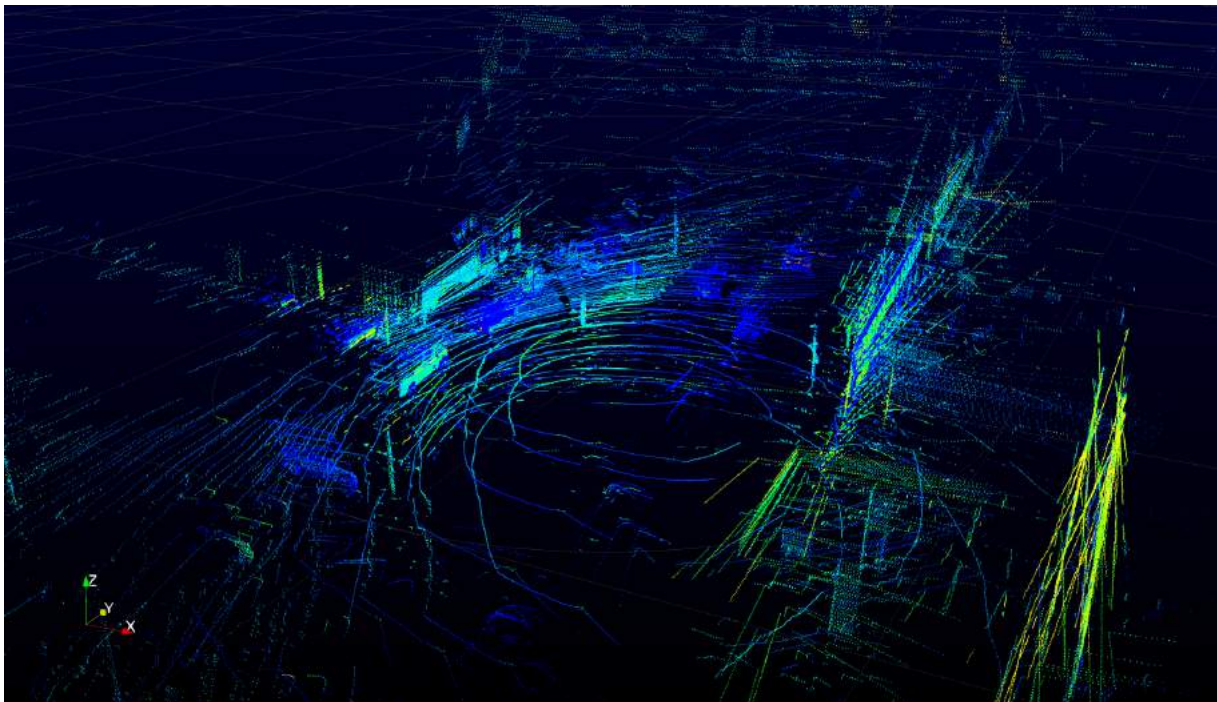

Figure 7 : Distorted point cloud due to wrong configuration file (HDL-32 calibration chosen instead of Alpha Prime)
- The output point cloud is distorted because of the wrong angle corrections, like in **figure 7**.